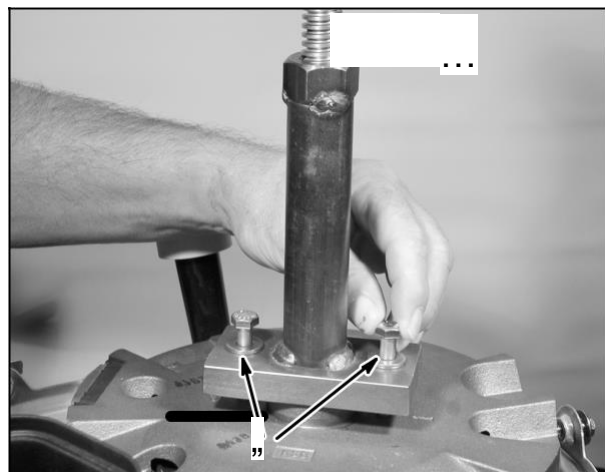

Fig. 19
Place the flywheel puller over the pilot. Back out the puller screw (5) until the flange on the puller is flush with the flange on the flywheel, **Fig. 19**.